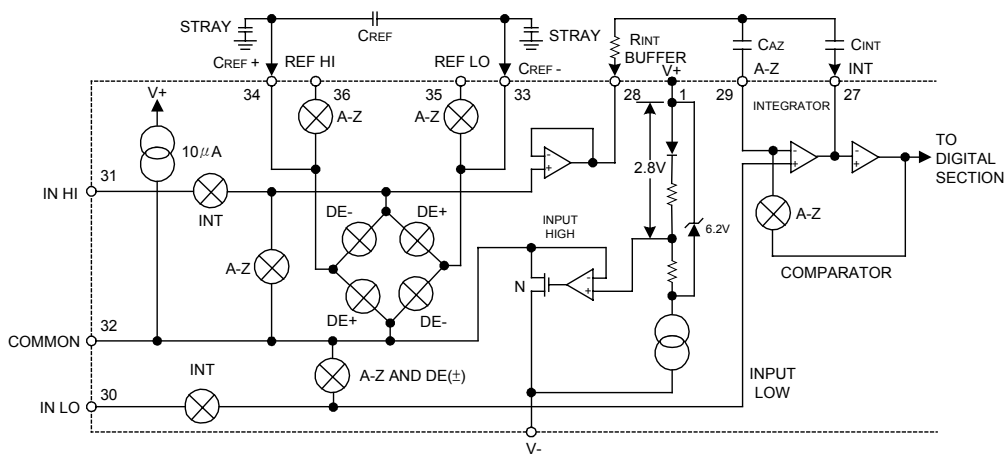

FIGURE 1. ANALOG SECTION
Note 3: Unless otherwise noted, specifications apply to the UTC 7106 at $T_a=25^{\circ}C$, $f_{LOCK}=48kHz$, UTC 7106 is tested in the circuit of Figure 1.
Figure 1 shows the Analog Section for the UTC 7106. Each measurement cycle is divided into three phases. They are (1) auto-zero (A-Z), (2) signal integrate (INT) and (3) de-integrate (DE).
The UTC 7106, with its negligible dissipation, suffers from none of these problems. In either case, an external reference can easily be added, as shown in Figure 1.